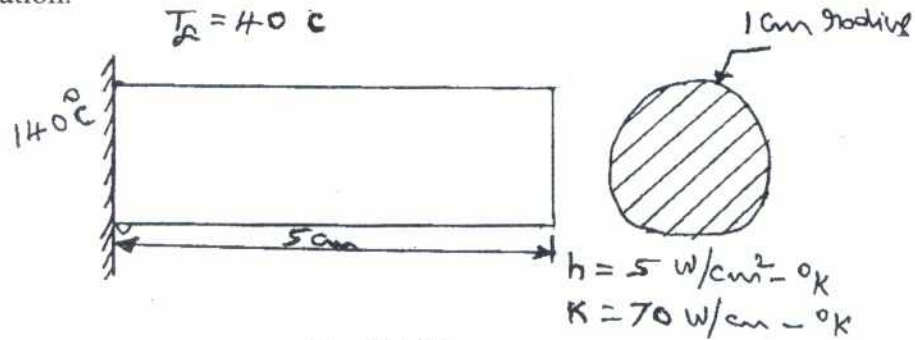

Fig. Q6 (b)
- b. Find the temperature distribution in the 1-D fin shown in Fig. Q6 (b). Take two elements for FE idealisation.